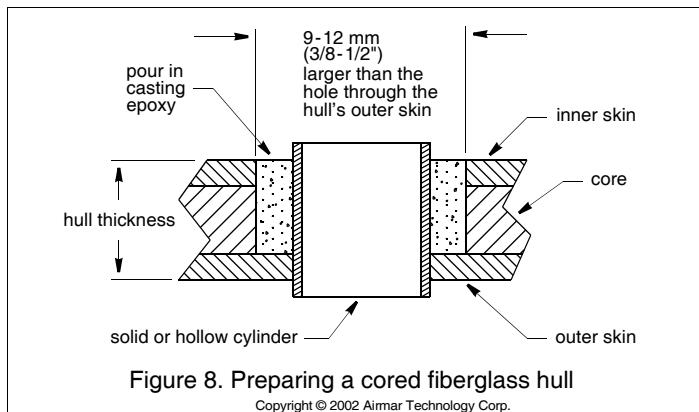

Figure 8. Preparing a cored fiberglass hull
2. Using a 51mm or 2" hole saw, cut the hole from outside the hull through the *outer skin* only (Figure 8).